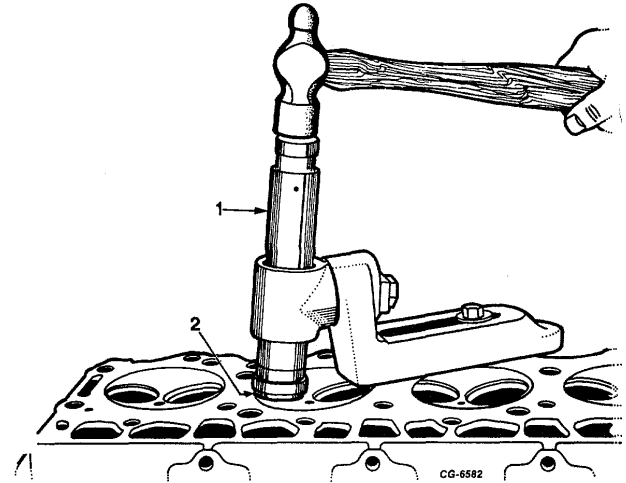

Fig. 119 Installing Valve Seat Insert
4. Using insert installer tool from counterbore tool set SE-1797 (Figure 119) install valve seat inserts. Chill inserts thoroughly with dry ice or other means. Position insert on installer tool and drive into cylinder head counterbore until firmly seated.